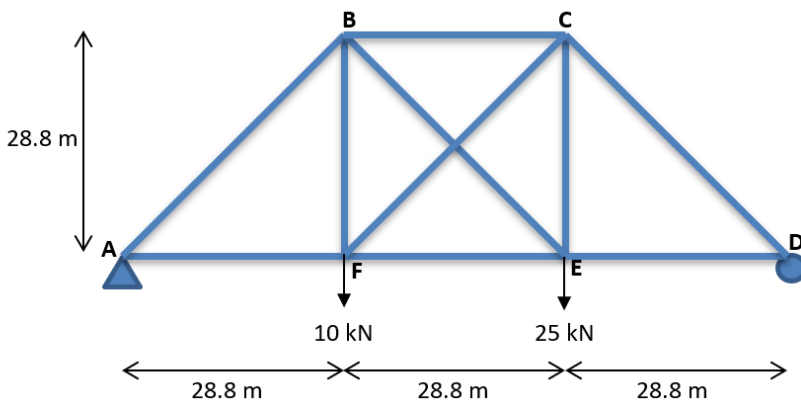

Figure 7.5
Classify the trusses below and determine the internal forces in Figure 7.5. The modulus of elasticity (E) of each member is constant.